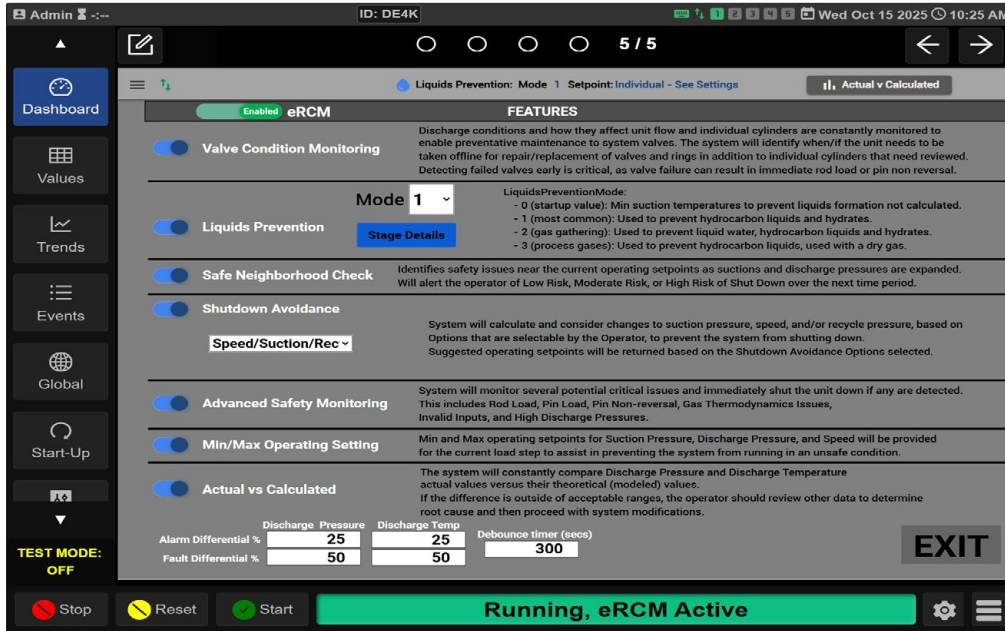

Figure 15
3. Select the individual toggles to enable or disable each feature of eRCM Express. See *Figure 15*.